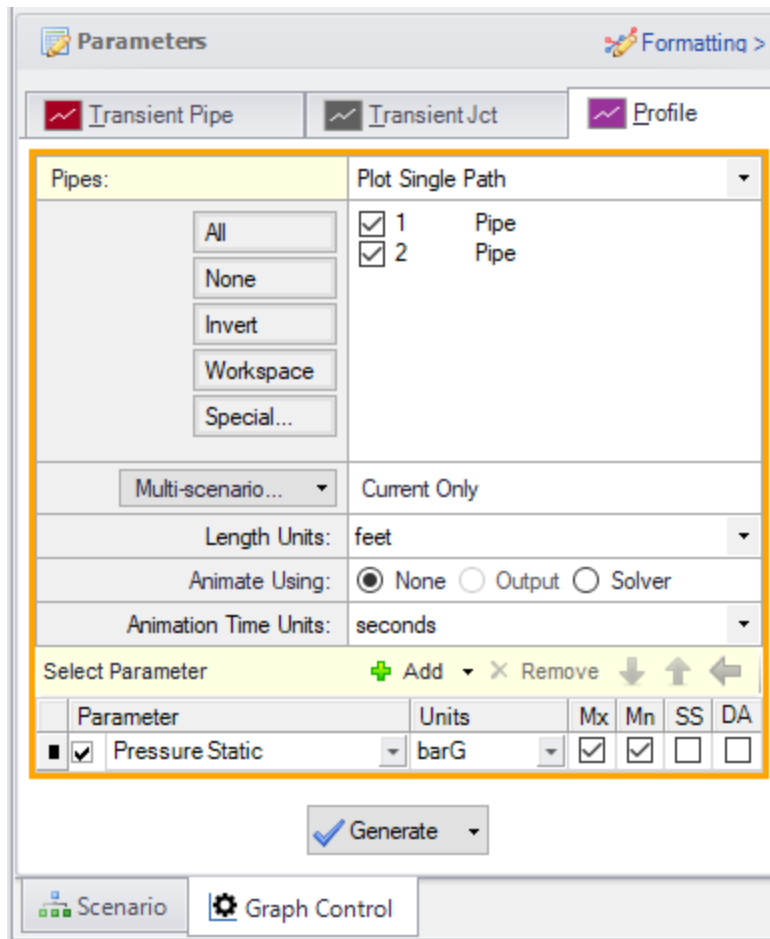

Figure 7: Data selection to view the max/min pressure profile
1. On the Quick Access Panel, select the Profile tab (Figure 7).